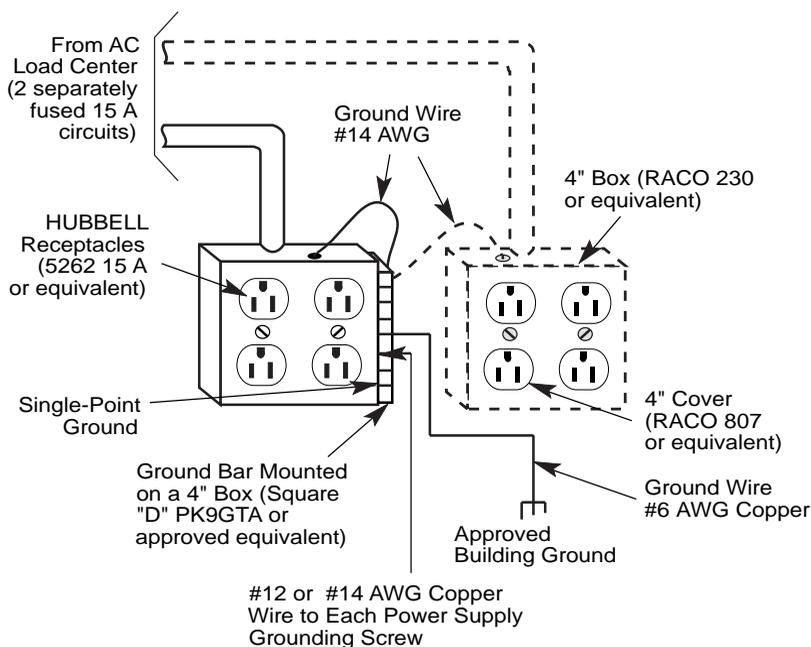
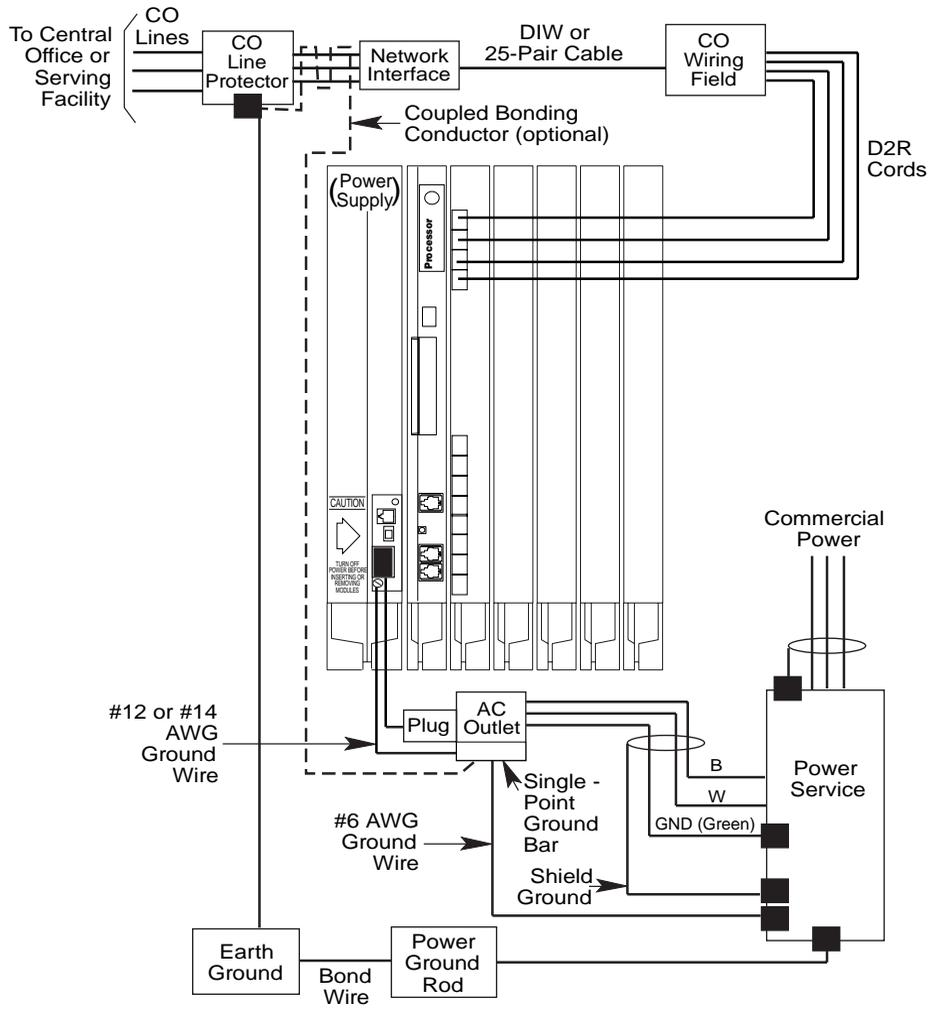

Figure 2-1. AC Grounding Requirements
Figure 2-3. Central Office and AC Grounds
- All AC outlets must connect to the same load center and the ground wire must connect to the single-point ground bar on the first AC outlet (see Figure 2-1).
- One outlet must have an attached ground bar connected by a #6 AWG copper wire to an approved ground (see "Approved Grounds," later in this chapter, for a description of approved grounds). This ground bar is the system's single-point ground (see Figure 2-1).
- Because equipment can be located throughout a building, the National Electrical Code requires that the ground point for the central office trunk protector be bonded to the AC power ground as shown in Figure 2-3.
- The AC outlet and the single-point ground bar must be properly grounded as shown in Figure 2-1 and Figure 2-3.
- Each power supply in the control unit must be connected to the single-point ground bar by a #12 AWG or a #14 AWG solid copper wire. Figures 2-1 and 2-3 show this connection.